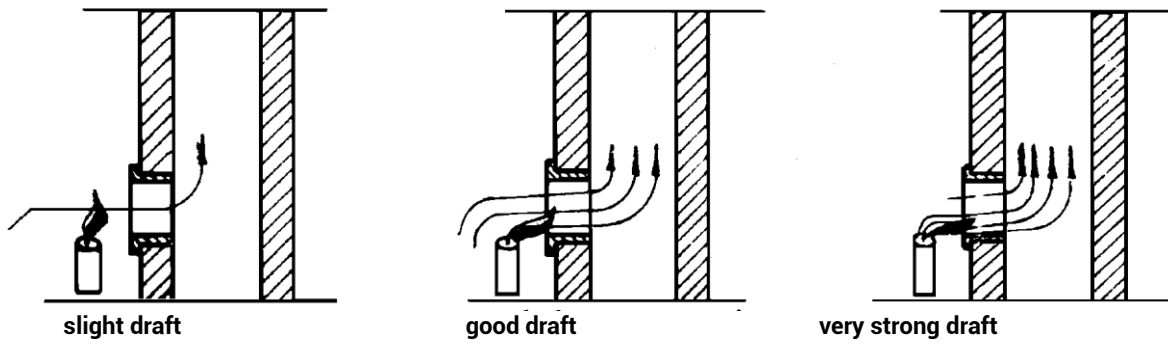

Figure 2
- Flue pipes that do not have thermal insulation and do not stand vertically, must not be longer than 1,25m. Check of the draft strength is performed by using candles (fig. 2).